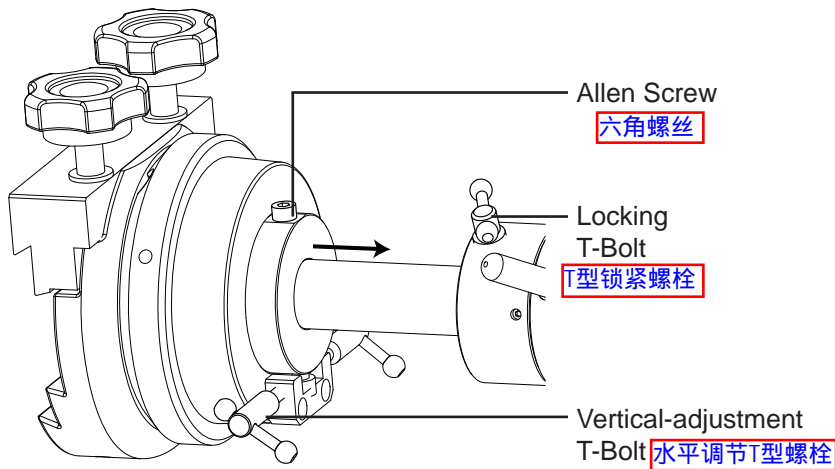

Fig. 2.5a
- Loosen the Allen screw on the saddle's silver ring and push the saddle onto the counterweight rod, as shown in Fig. 2.5a. Align the Allen screw to the flat surface on the counterweight rod. 2. 松开底座上银色圆环上的六角螺丝并把底座推到配重杆上，如图2.5a所示。把六角螺丝与配重杆上的平整面对齐。